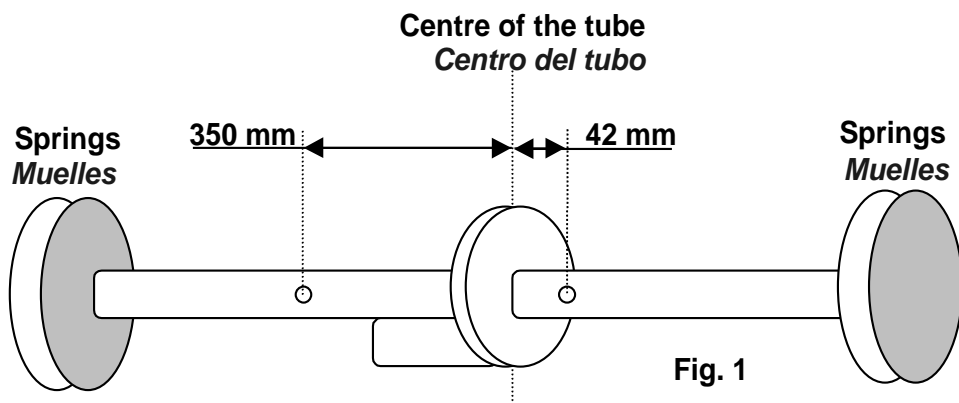

Fig. 1
- Drill into the tube with the spring at 42 mm. on the right from the centre, by a 8,5 mm. drill (fig. 1).
- Drill into the tube with the spring at 350mm. on the left from the centre, by a 12,5 mm drill (fig. 1).